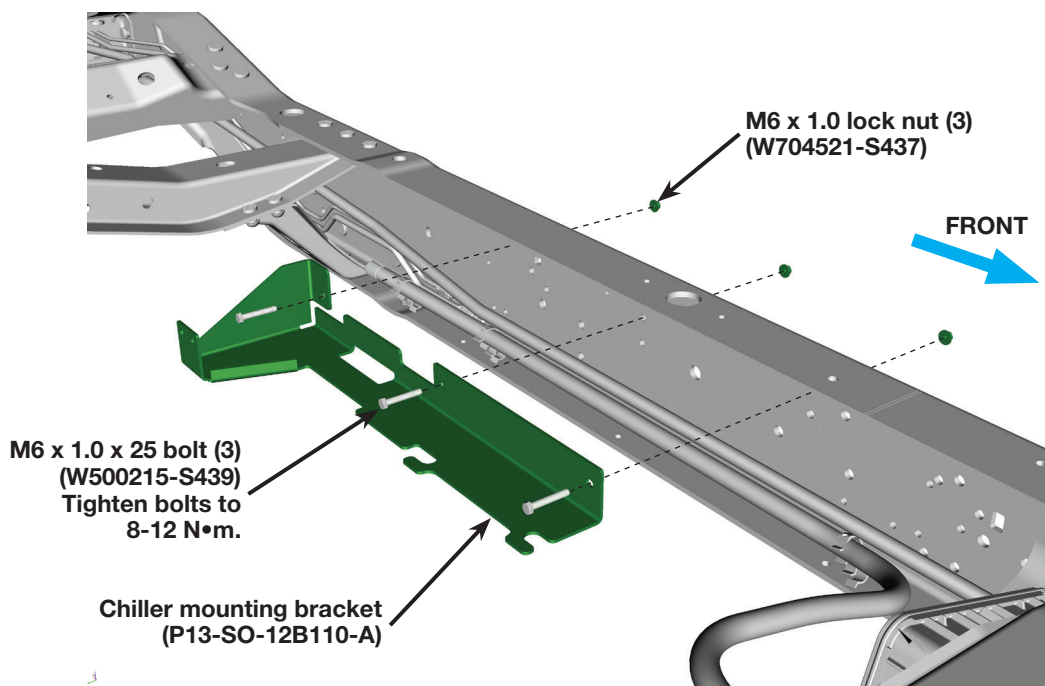

Figure 9 – Chiller Mounting Bracket Installation
4. Reinstall the mounting bracket with all three M6 x 1.0 x 25 mounting bolts, W500215-S439, and M6 x 1.0 lock nuts, W704521-S437 (Figure 9). Tighten the bolts to 8-12 N•m.